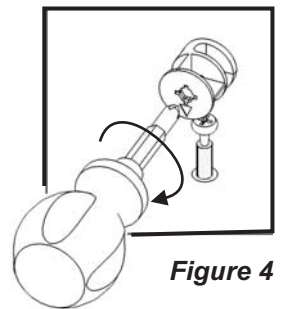

Figure 4
Attach Top (A) to the unit with Cam Locks. (See Figure 4)